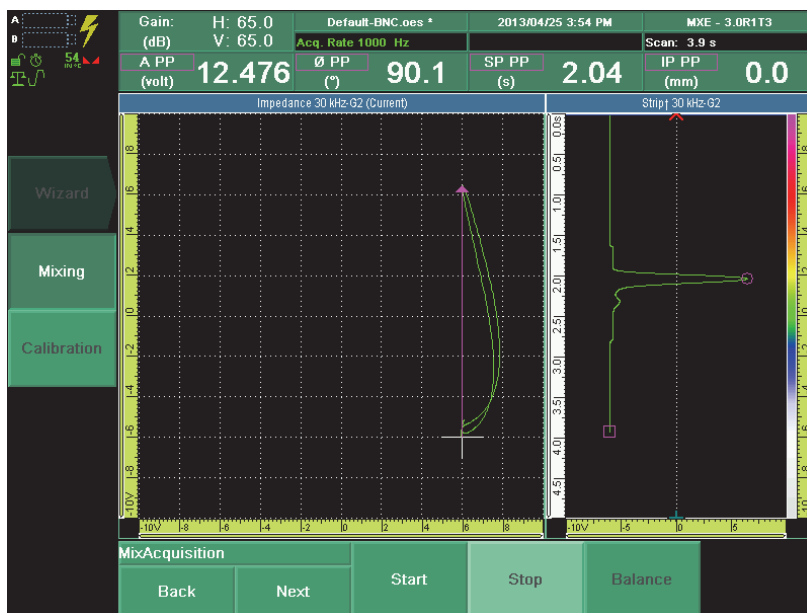

Figure 9-41 Scanning the good fastener in the Mix Acquisition step
4. Select **Start**, and then scan the good fastener (see Figure 9-41 on page 187).